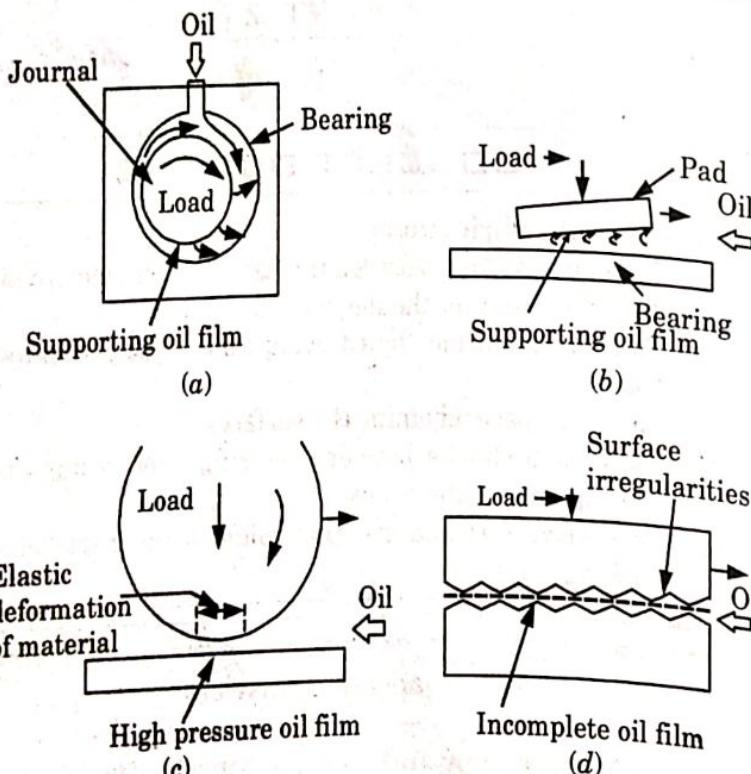

Fig. 5.5.1. (a) Action of lubrication in the bearing, (b) Hydrodynamic lubrication, (c) Elastohydrodynamic lubrication, (d) Boundary lubrication.
- When the block is moved over the surface, a wedge-shaped oil film [Fig. 5.5.1(b)] is built-up between the moving block and the surface
- When the load acting on the bearings is very high, the material itself deforms elastically [Fig. 5.5.1(c)] against the pressure built up
1. If the film thickness between the two surfaces in relative motion becomes so thin that formation of hydrodynamic oil film is not possible and the surface high spots or asperities penetrate this thin film to make metal-to-metal contact then such lubrication is called boundary lubrication [Fig. 5.5.1(d)].